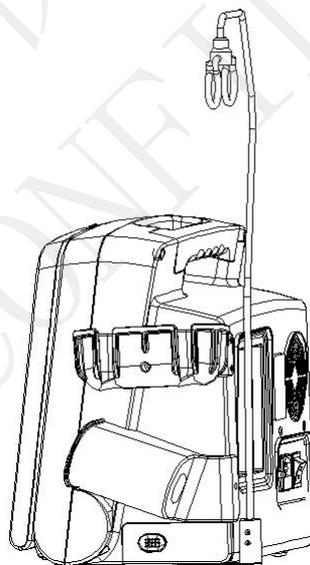

Figure 4-2 Main Unit with Cable Holder
4. Carefully turn the main unit with a cable holder to the normal state as shown in figure 4-2.